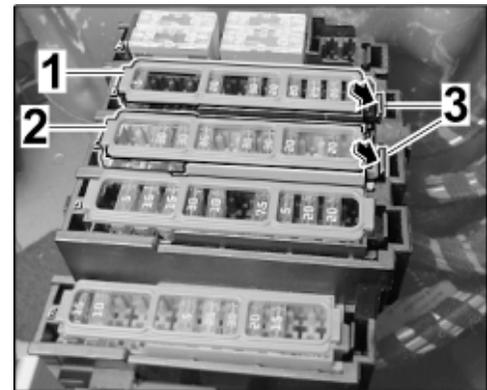

Figure 8
2.4.2 Release locks of fuse strip C and fuse strip B. Remove fuse strips B/C by pulling them down (⇒ *Figure 8 -Arrows-*) out of the fuse box.